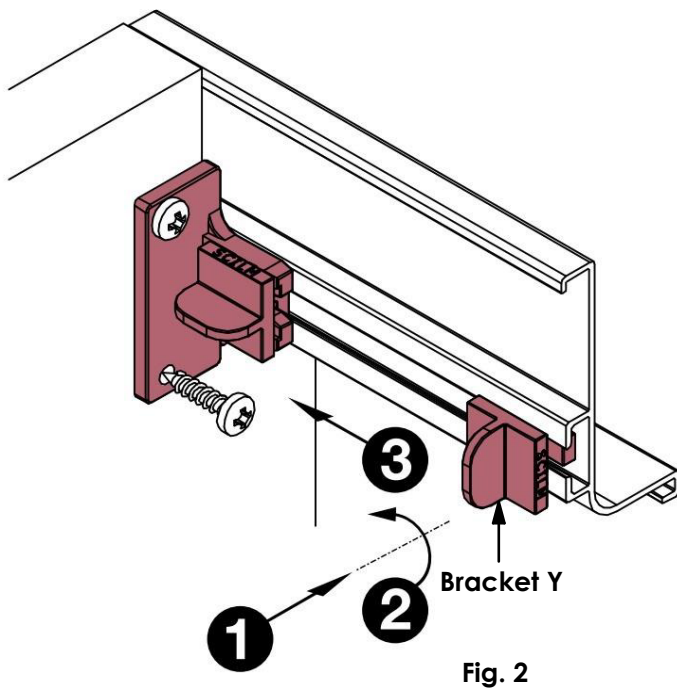

Fig. 2
1. Place the Gola Profile on the provided notch as shown. Insert **Bracket Y** in the channel on the backside of the Gola Profile. See **Fig. 2**.
2. Turn **Bracket Y** 90° as shown. See **Fig. 2**.
3. Slide **Bracket Y** onto **Bracket X** as shown. See **Fig. 2**.